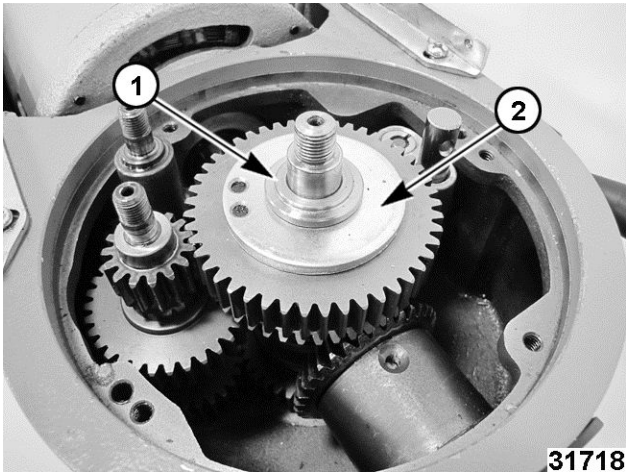

Fig. 36
13. Replace roller clutch spacer (2, Fig. 36) and upper shouldered spacer (1, _).